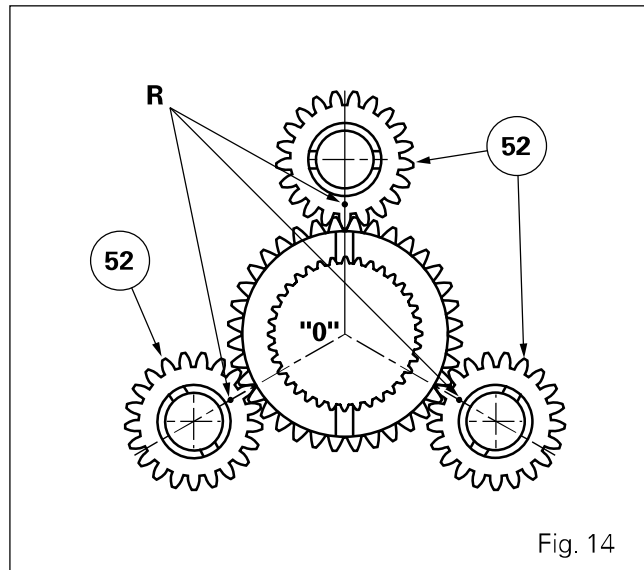

Fig. 14
77. Install the partially assembled planet carrier. Fit the snap ring (98) and the rear snap ring (61) on the output sun gear (58).
78. Position marks "R" (punch marks) on the double pinion gears (52) (Fig. 14) so that they pass through a centerline meeting at "O" (Fig. 14).